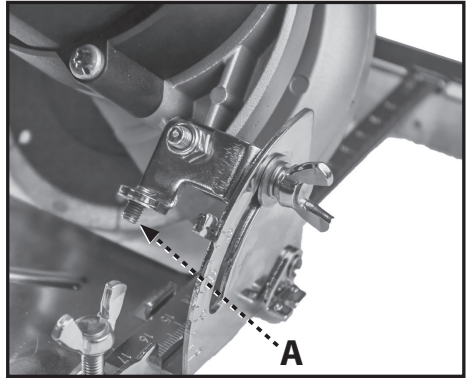

FIGURE 14
4. If the blade is not square, locate the positive stop adjustment screw shown in Figure 14.